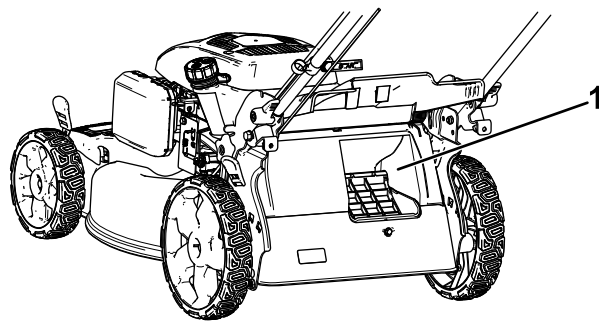

Figure 21
**Important:** For proper operation, shut off the engine, wait for all moving parts to stop, and then remove any grass clippings and debris from the bag-on-demand door and the surrounding opening (Figure 21) before you move the bag-on-demand lever from 1 position to another.